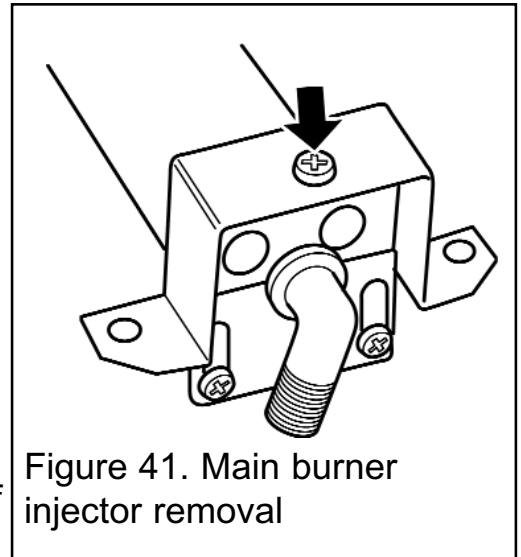

Figure 41. Main burner injector removal
2. Remove the burner clamping screw (See figure 41)